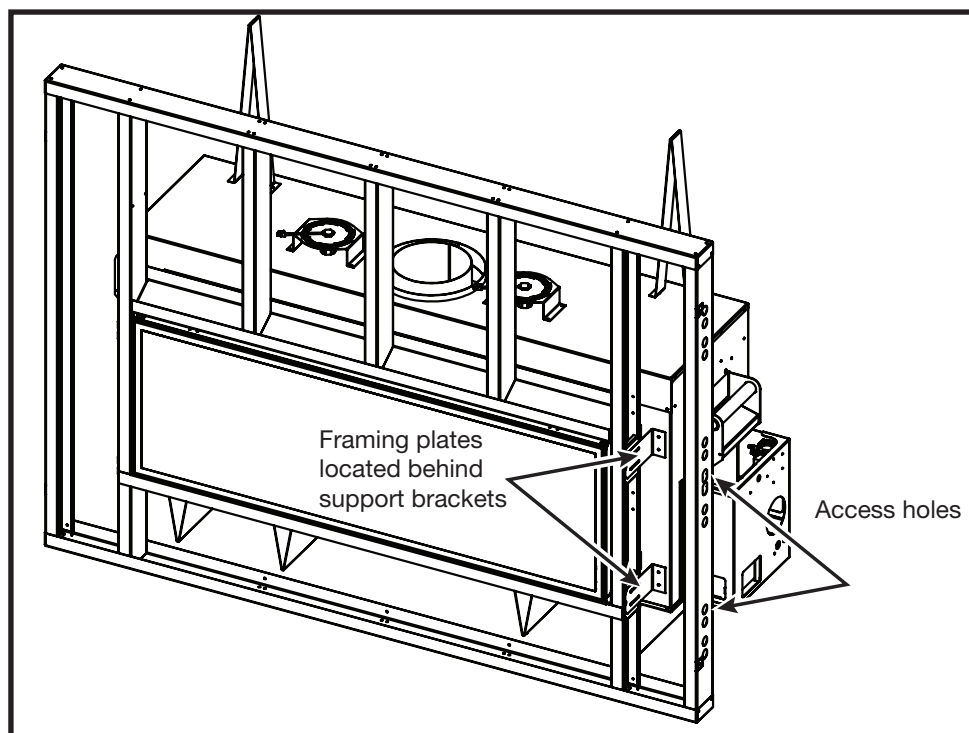

Figure 15: Aligning steel frame to fireplace.
2. Place 3 center studs (#6) perpendicular to, and below the above horizontal beam at the beams 3 middle-most securing points. Make sure that the lower pointed ends of the center studs are closest to you. Use wafer screws (1) to join the top side of the vertical pieces to the horizontal piece.
9. Align the assembled frame to the unit framing plates (#8). Attach at the fastening points through the access holes (Figure 15) in the outer side studs (#3).